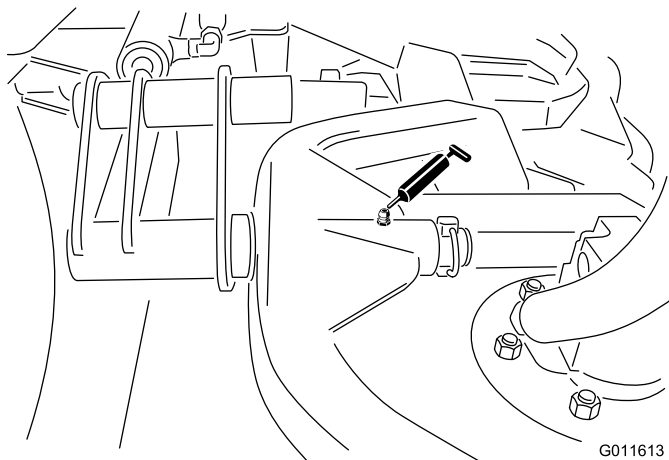

Figure 29
- Cutting unit carrier frame pivot (1 each) (Figure 29)